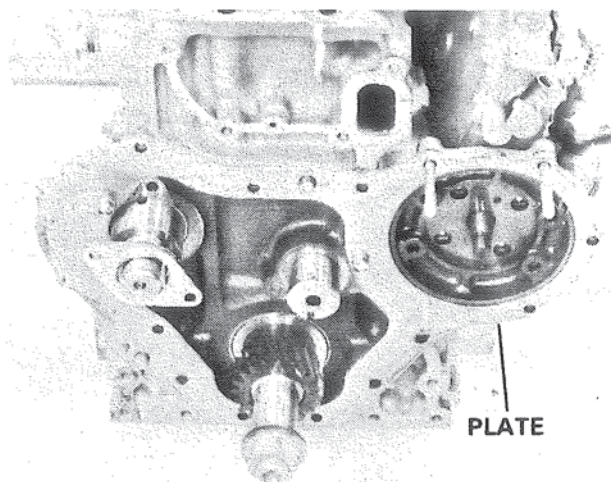

Figure 19. Removing Front Plate.
29. Remove front plate with injection pump. Figure 19.